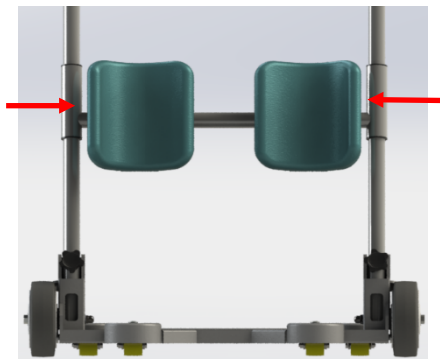

Figure 14
4. To adjust the individual pads inwards and outwards, using your hand slide each pad by pushing inwards or outwards to suit the need for the patient. (see figure 14 & 15)